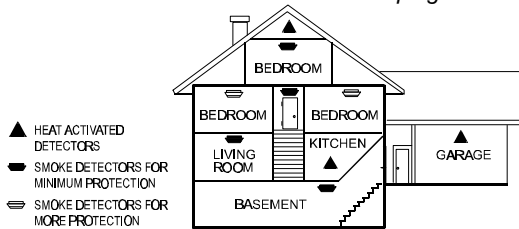

Figure 5. Placing Smoke/Heat Detectors in a Multi-Floor Residence
- Install a smoke detector on every floor of a multi-floor home or apartment, as shown in Figure 5.
- Install basement detectors at the bottom of the basement stairwell, as shown in Figure 5.